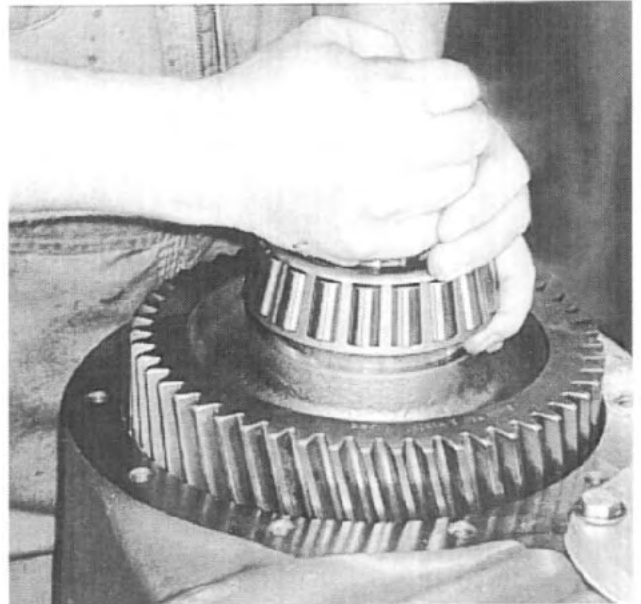

Fig. 90
29. Turn the transfer case over. Install the front input shaft assembly, threaded end up, into the transfer case housing. See Fig. 90.